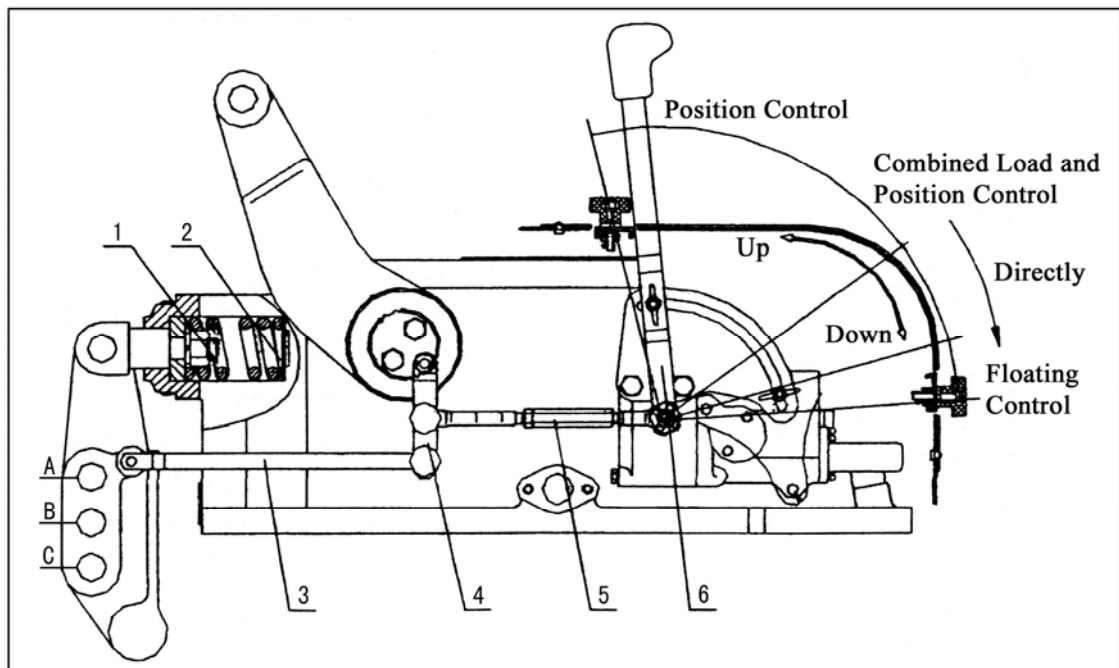

Fig. 11 Functional Diagram of Hydraulic Lifter
Semi-divided positioned hydraulic lifter involves combined load and position control handle (Fig.11.) Position control, combined load and position control and floating control are available.
a. Fig. 11 shows the working theory of hydraulic lifter. Control handle 6 is to lift and drop farm tools to control plow depth.
There are three hanging holes for upper link on the rocker of load adjusting spring. When using combine load and position control, in normal condition, use the middle B hole, while the upper A hole for earth with large resistivity and the Hole C for position control.(See Fig. 11)